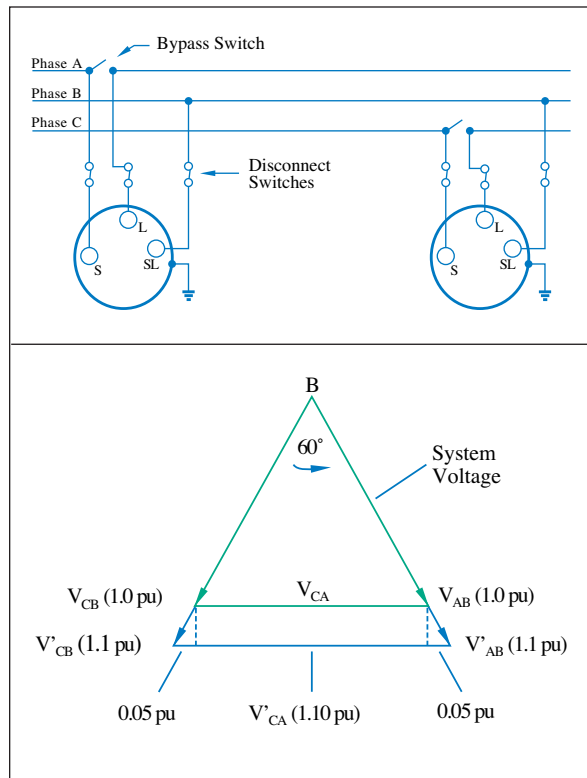

Figure 7: Two single-phase regulators control voltage on a three-phase, three-wire circuit.
- Open-Delta Connection (Figure 7): Maximum regulation is $\pm 10\%$ of input. Two single-phase regulators are used.